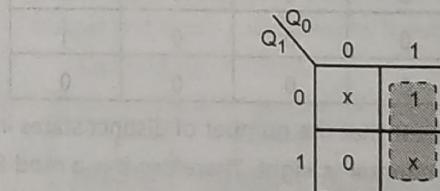
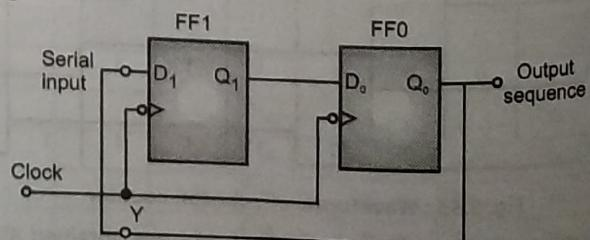
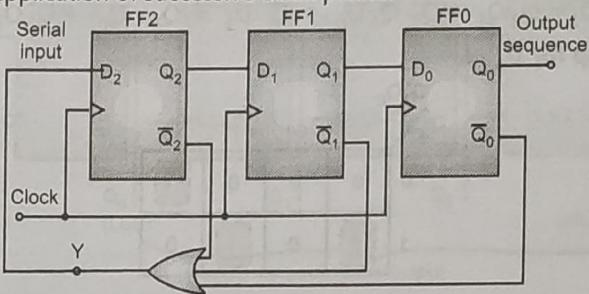

Fig. 3.57
Fig. 3.58
Fig. 3.59
- As shown in Fig. 3.57 the output Y of the combinational circuit is connected as the serial input of the shift register. In this example, output Y is to be connected to D1 input of FF1. The output Y applied at D1 will become Q_1 after application of the clock pulse. Therefore whatever state of Q_1 is required during the next clock cycle, the same must be generated by the combinational circuit during the present clock cycle.
- Based on the above expression and the block diagram shown in the Fig. 3.57, the circuit diagram is drawn as shown in Fig. 3.58.
- As shown in Fig. 3.58, as $Y = Q_0$, combinational circuit is a simple connection between output Q_0 and serial input D_1 . The desired output sequence is available at both outputs Q_1 and Q_0 with the application of successive clock pulses.
- Based on the above expression and the block diagram shown in Fig. 3.58, the circuit diagram is drawn as shown in Fig. 3.59.
- As shown in Fig. 3.59, the combinational circuit consists of 3 input OR gate and its output Y is connected to the serial input D_2 of the shift register. The desired output sequence is available at any of the outputs Q_2 , Q_1 and Q_0 with the application of successive clock pulses.